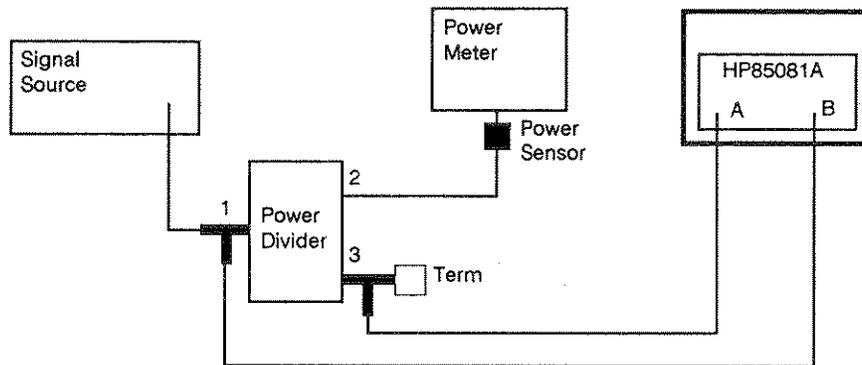

Figure 5-4. Bias Adjustment Setup
1. Configure the equipment as shown in Figure 5-4.